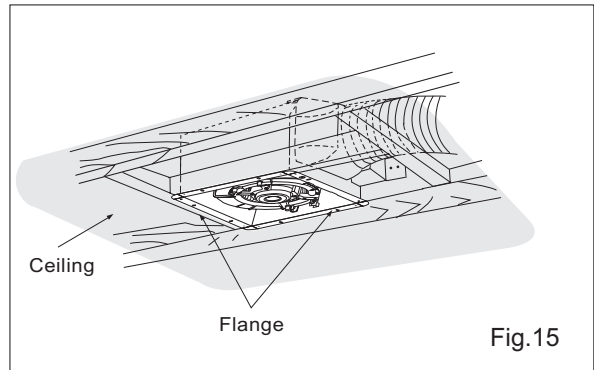

Fig.15
6. Finish ceiling work. Ceiling hole should be aligned with edge of the flange. (Fig.15)